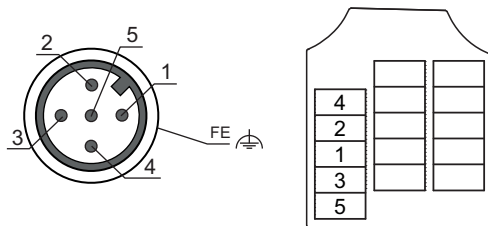

Figure 7.1: PWR / SW IN/OUT connection
If the BPS 301i is the last participant on the bus cable, the BUS OUT socket on the MS 301 must be provided with a terminator plug (see table 14.3) or the bus termination on the MK 301 must be activated with slide switch T (see figure 7.1).
<ul style="list-style-type: none"> ↪ The bus is looped through the MK 301, i.e. the bus is not interrupted when the BPS 301i is removed from the MK 301. ↪ The bus is terminated via slide switch T in the MK 301 (see figure 7.1). If the termination is activated (slide switch T in the ON position), the downstream bus cable is disconnected.
- ↪ If the current BPS 301i is the last bus participant, set slide switch T to ON (see figure 7.1) to activate bus termination.
↳ Terminate the last physical RS 485 participant on the MK 301 connection hood with slide switch T (ON position, see figure 7.1).